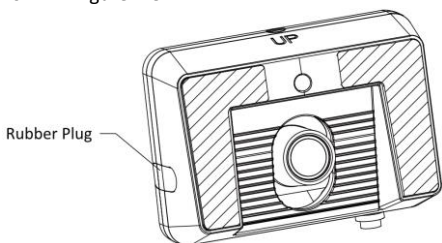

Figure 2-3 Open the Protection Cover
6. Open the rubber plug on the side of the camera, as shown in Figure 2-3.